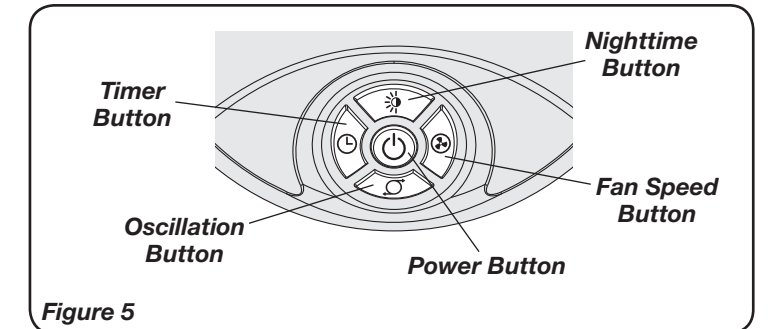
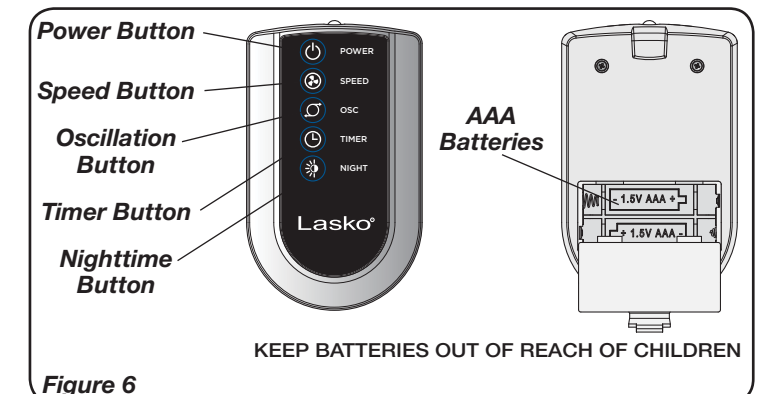

Figure 5
Figure 6
This Fan may be operated by the Manual Controls located on front of the unit (Figure 5) or by the Remote Control (Figure 6).
1. Install two "AAA" batteries (not included) as shown in Figure 6.